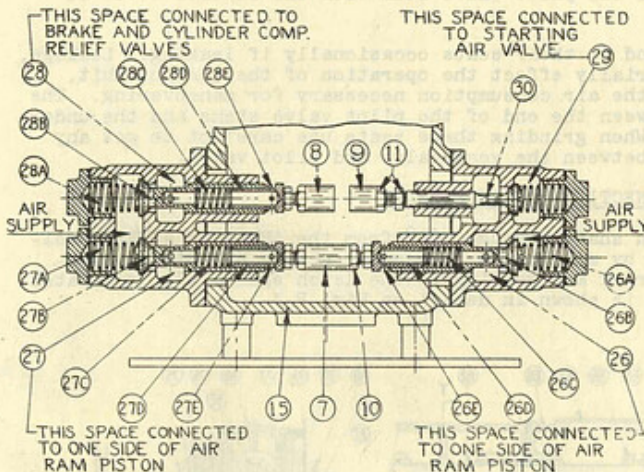

FIG. R-2
Fig. R-2 showing Section X-X in Fig. R-1, is a horizontal section through the pilot valves. Valves (26B) and (27B) are the air ram control valves, (27B) AHEAD and (26B) ASTERN in a right hand engine. The air ram is essentially a double acting piston and rod, the latter being connected through gearing to the latch shaft. The piston is actuated by compressed air at 125 to 200 lbs. pressure and, for the operation of the ram, it is essential that the pressure and relief on the two sides of the piston be under accurate control. This control is by means of the pilot valves (26B) and (27B) actuated by the control lever through the cam and lever (7) as previously described. The valves are identical on each side, and the operation is the same whether AHEAD or ASTERN. Referring to Fig. R-2 the outer chambers are connected to the air supply and the inner chambers (26) and (27) are connected to the two sides of the air ram cylinder. Fig. R-2 shows the mechanism with the control lever at STOP and lever (7) vertical. In this position the pilot valves (26B) and (27B) are both held closed by their spring (26A) and (27A) and vent valves (26D) and (27D) are held out against adjusting screws (10) (26C) and (27C). Both sides of the air ram piston are therefore vented into the control housing through the drilled holes in the pilot and vent valves. As the control handle is moved AHEAD lever (7) is moved to the left as seen in Fig. R-2 (for a right hand engine) and vent valve (27D) slides into pilot valve (27B) collapsing spring (27C), until its head engages the end of the pilot valve and seals vent holes (27E). Further motion of lever (7) lifts valve (27B) off its seat, collapsing spring (27A) and admitting air to chamber (27) and so to the AHEAD side of the air ram piston. During this action vent valve (26E) on the opposite side is pushed out by spring (26C) and follows the motion of lever (7). The vent passage through the drilled holes in the valves thus remains open, venting chamber (26), and allowing the air ahead of the piston to escape as the
The flywheel brake is actuated by a single acting air piston and is released by a spring. Only one pilot valve is therefore necessary for its control. This valve, (28B) in Fig. R-2, is identical with the pilot valves for the air ram and its action in admitting air to and venting the cylinder is exactly the same. The valve is operated by lever (8) as previously described, and the adjusting screw in the lever should be set the same as the ones for the air ram pilot valves, that is to allow $\frac{7}{32}$ " opening of the vent valve when the lever roller is on the cam base circle.
Valve (30) in Fig. R-2 is for the control of the master valve in the starting air manifold, described in detail in Paragraph 11. This is a piston operated valve, held closed by the air pressure on the valve head and opened by the pressure above a piston when the cylinder below is vented. The pilot valve operating the master valve must therefore vent the cylinder below the piston. It is a simple poppet valve, mechanically opened and spring closed. Referring to Fig. R-2 chamber (29) is connected to the cylinder below the piston in the master starting valve. When the pilot valve is opened by lever (9) as previously described, this chamber is vented into the control housing and the master starting air valve opens, admitting air to the starting air manifold. When the pilot valve is closed pressure immediately builds up below the piston and the master valve closes.